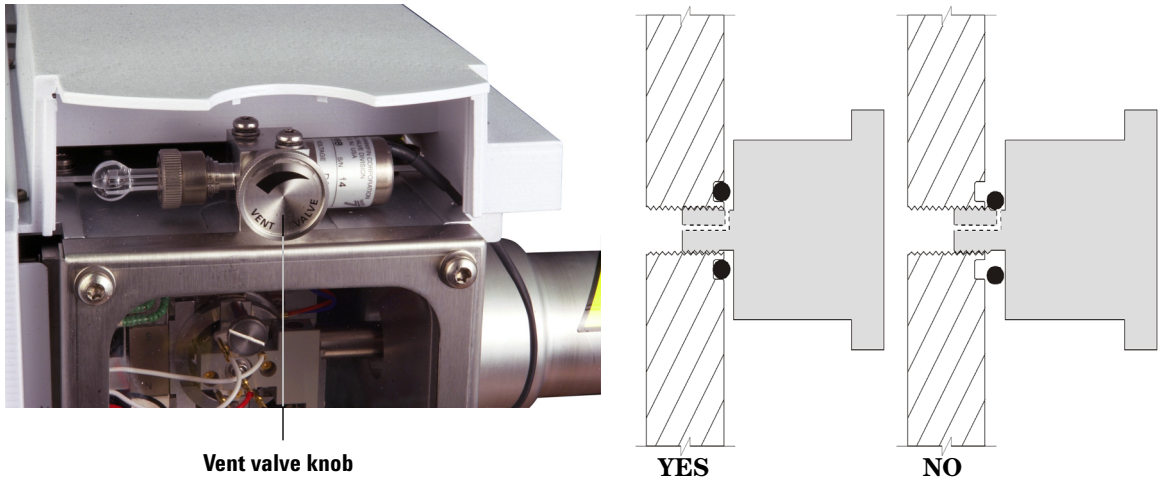

Figure 20 Venting the MSD
- 6 Turn the vent valve knob (Figure 20) counterclockwise *only* 3/4 turns or until you hear the hissing sound of air flowing into the analyzer chamber.